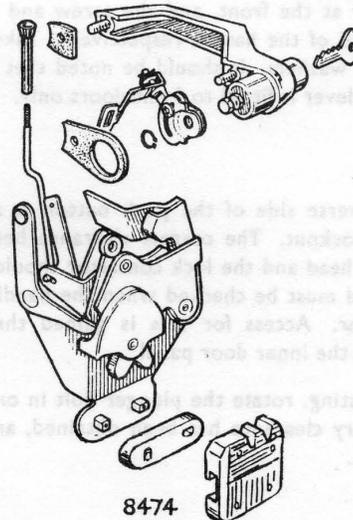

Fig. 15 Front door lock and exterior handle
**To remove** (See Figs. 15 and 16)